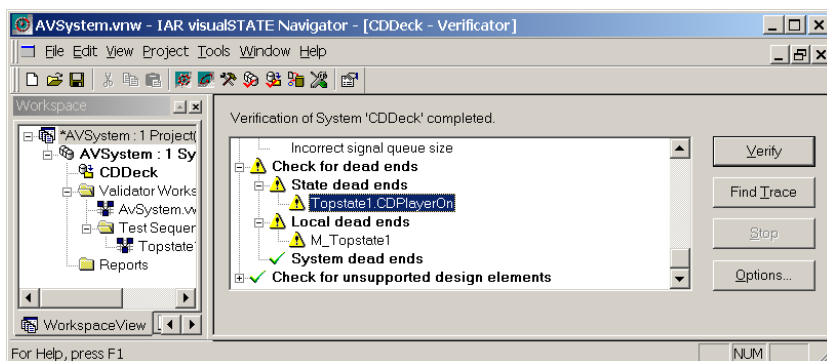

Figure 111: Verificator Results, Ready to Find Trace
- 2 Mark the dead end or conflict you want to trace to. When you have marked one the **Find Trace** button will be enabled. Refer to *Figure 111*, page 141.